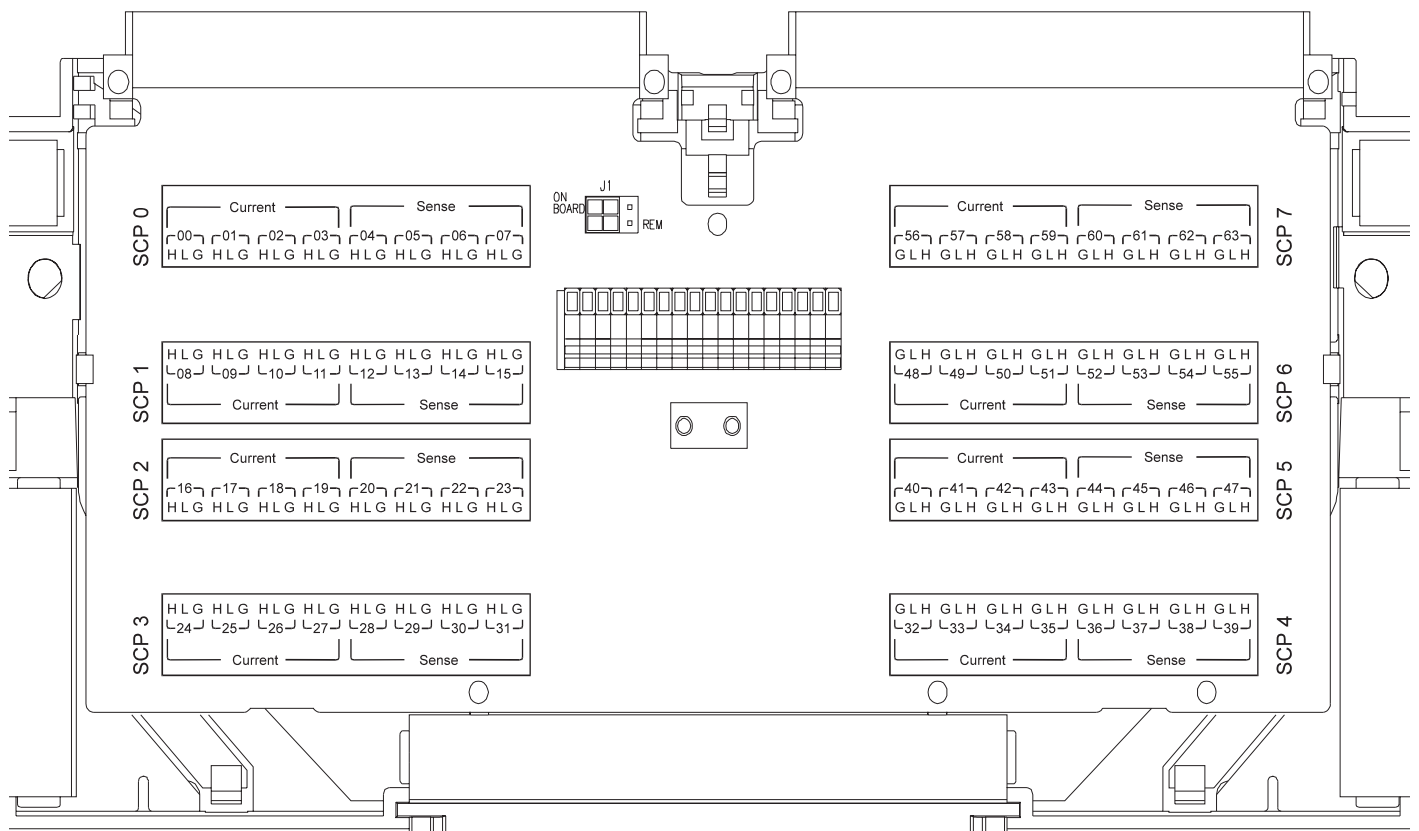

Figure 2. VT1518A C-Size Terminal Module Connections
- For the VT1413C and VT1415A, use the label sheet marked C-size (Figure 2).